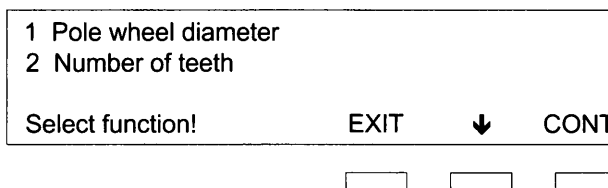

Fig 16 Pole Wheel Parameter Menu (2)
49 If item 1 of the pole wheel parameter menu (2), (Fig 16) is selected, the display may, for example, show the following:
51 If item 2 of the pole wheel parameter menu (2), (Fig 16) is selected, the number of teeth for the pole wheel can be selected. The Pinzgauer pole wheel has 100 teeth, which can be entered directly by selecting item 1 on the menu.